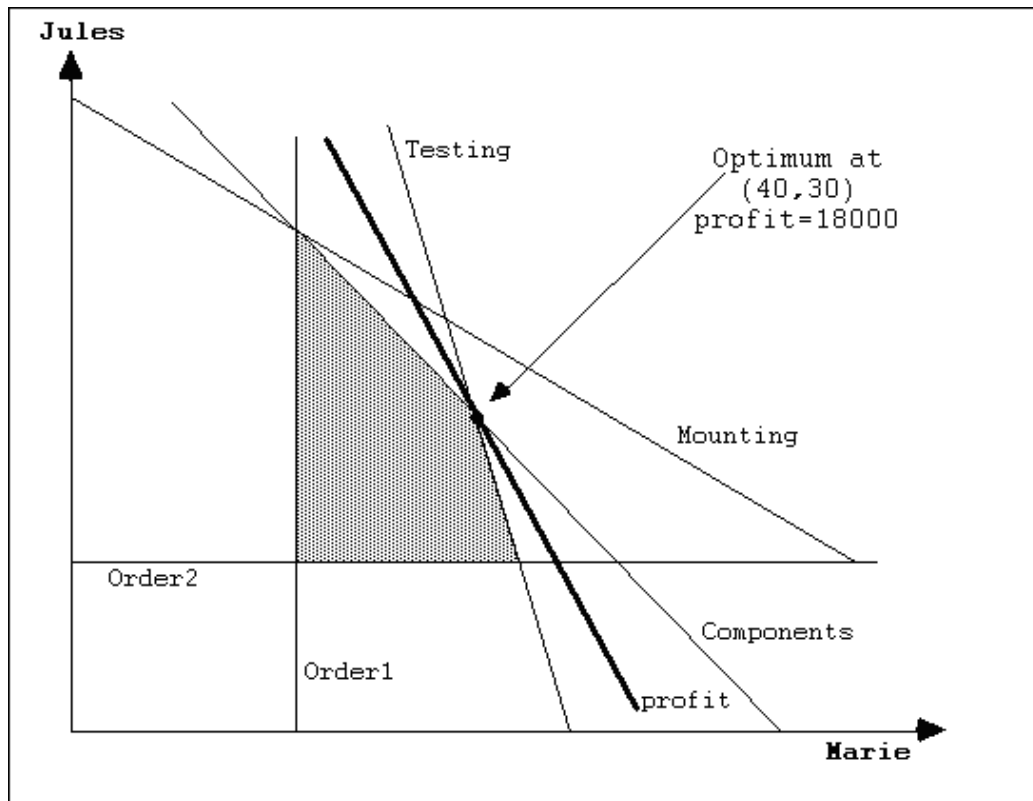

Figure 1: The Feasible Space
In a graphical way, the model represents the solution space as shown in **Comments** Figure 1. That is, every  $(x, y)$ -point within the gray polygon represents a possible (feasible) production that fulfills all constraints. All other points in the two-dimensional space violate at least one of the constraints. The complete model code in LPL for this model is as follows:
[[This part of the documentation is intended to gives a short comment about the solution of the model.]] The optimal solution is  $x = 40$  and  $y = 30$ , which can be verified by Figure 1. It means that neither the quantity of  $x$  nor the quantity of  $y$  can be increased without violating one of the capacity constraint. On the other hand, a reduction of one of the quantities is "suboptimal": it reduces the **profit**, and hence it is no longer maximized.
2. Nothing, the solution is still  $\{x = 40, y = 30\}$ . This can be seen immediately from Figure 1: The **Mounting** capacity is not the limiting resource. So, extending it, changes nothing. To calculate it, change 480 to 500 in the model and run it again. Then look at the values of the variables again.